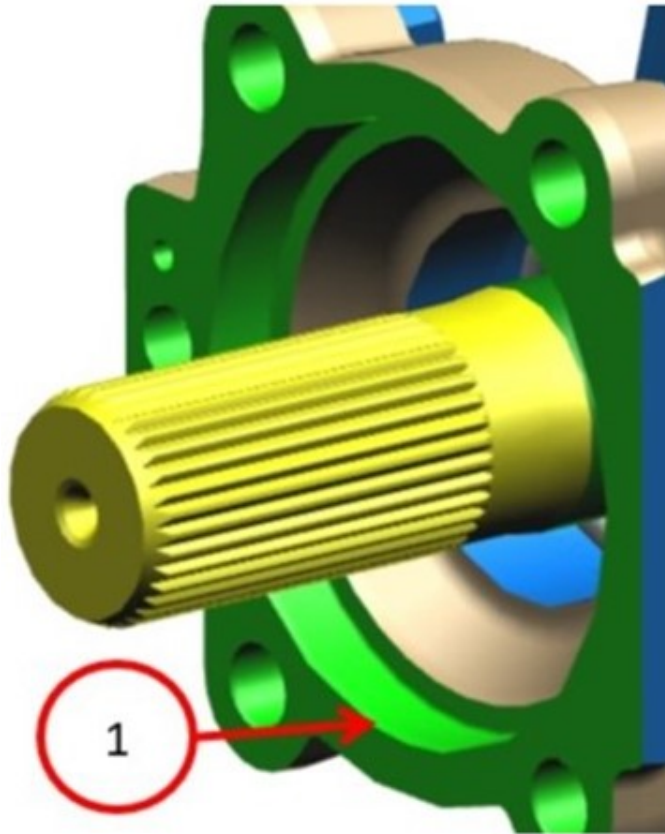

Fig. 4
11. Lubricate the tube flange inside diameter with 75-85W sump lube as this aids in O-ring guidance Fig. 4.